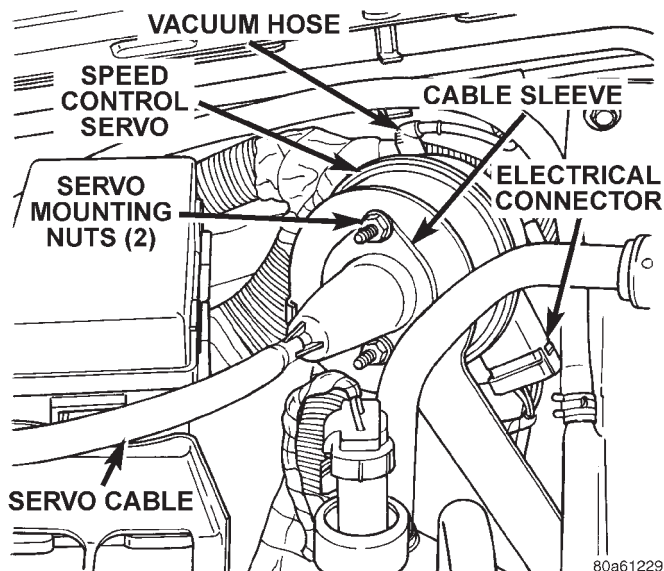
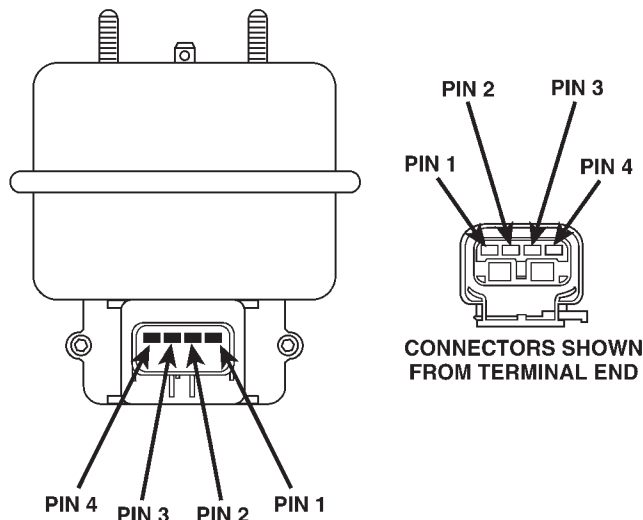

Fig. 2 Servo Electrical Connector Location
Fig. 3 Servo 4-Way Harness Connector
- (1) Start engine.
- (2) Disconnect 4-way electrical connector at servo (Fig. 2).
- (3) Turn speed control switch to ON position.
- (4) Check for battery voltage at pin-3 of wiring harness 4-way connector (Fig. 3). This is the 12 volt feed from the stoplamp switch. When the brake pedal is depressed, voltage should not be present at pin-3. If voltage is not present with brake pedal **not** depressed, check for continuity between servo and stop lamp switch. Also check stop lamp switch adjustment. Refer to Group 5, Brakes for procedures.
- (5) Connect a small gauge jumper wire between the disconnected servo harness 4-way connector pin-3, and pin-3 on the servo. Check for battery voltage at pins-1, 2 and 4 of the servo. If battery voltage is not at these pins, replace the servo.